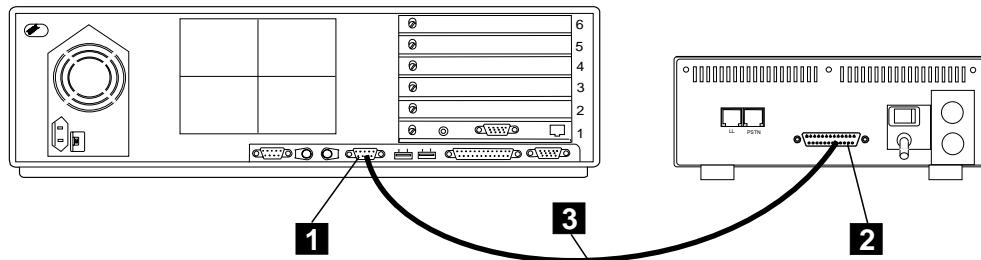

Figure 1-82. Connecting the Service Processor (7585) from COM1 to the 7857
- **7585**, refer to Figure 1-82 on page 1-74